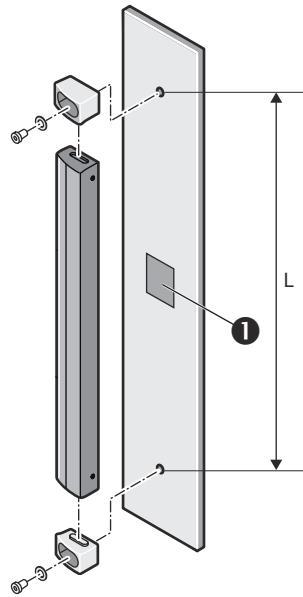

Figure 40: Mounting the miniTwin2 with O-Fix bracket
2. Insert the twin stick between the two O-Fix brackets. For applications in which strong vibrations could occur, from a device length of 600 mm, stick the twin stick to the mounting surface with two-sided tape (see ❶ in figure 40).